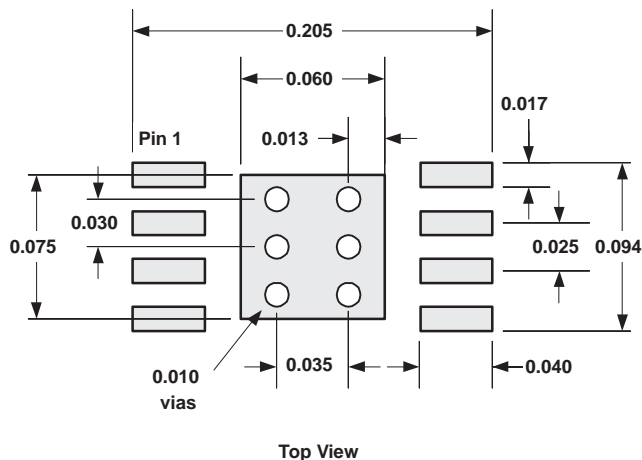

Figure 62. DGN PowerPAD PCB Etch and Via Pattern
1. Prepare the PCB with a top side etch pattern as shown in Figure 62. There should be etch for the leads as well as etch for the thermal pad.